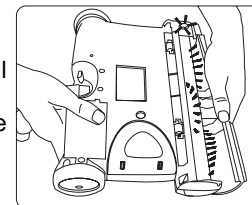

Fig. 8
4. Periodically remove the brush cover on the front of the cordless sweeper and remove any build up of lint, hair or fiber on the rotating brush. To remove the cover - grip the cover from the bottom, pull out and upward until the cover unlocks from the side slots and tabs located on the top of the sweeper. (Fig. 8)